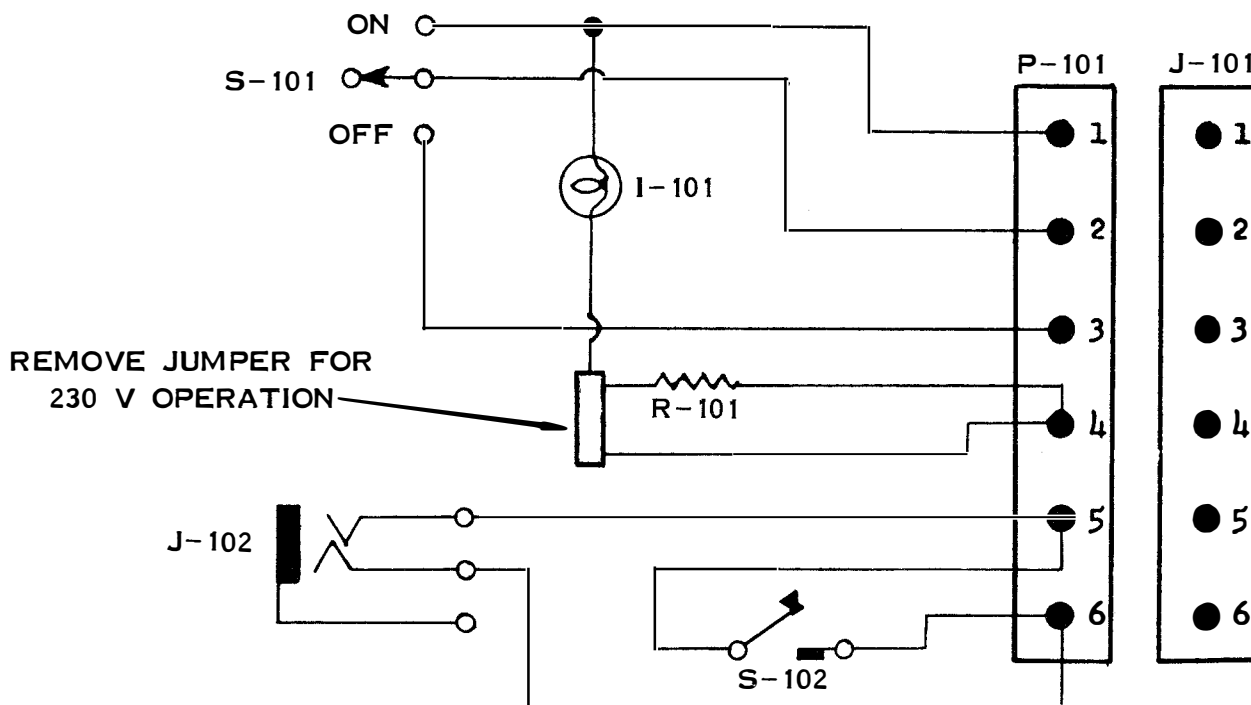

Figure 3-1. Control Panel Telegraph Key SB-315B/U, Schematic Diagram
b. **WIRING.** - Figure 3-1 shows a schematic diagram for wiring.
f. **TYPICAL INSTALLATION.** - Terminals 7 and 8 of J-101 are not to be used. Power for the indicator light I-101 is brought in to terminal 4 of J-101. If the radio transmitter is operated from a source of 115 volts, the link on the terminal board is left in the closed position, shorting out dropping resistor R-101. If the radio transmitter is operated from a source of 230 volts, the link must be removed, permitting R-101 to function as a voltage dropping resistor in series with the lamp I-101. Figure 3-1 shows a schematic diagram of the equipment.
The reassembly procedure for this equipment is essentially the same as the disassembly procedure in reverse. Therefore, to reassemble the Control Panel Telegraph Key SB-315B/U, start with step (u) of the disassembly procedure and work forward. When soldering be careful not to let solder fall unnecessarily. See figure 3-1 for schematic diagram.